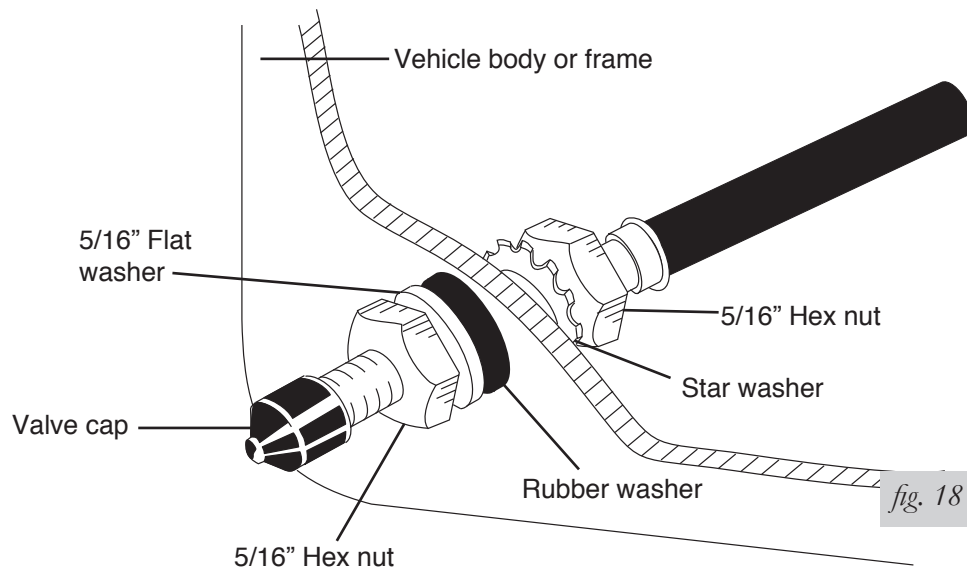

fig. 18
- Place a 5/16" nut and star washer on the air valve. Leave enough of the inflation valve in front of the nut to extend through the hole and have room for the rubber washer, flat washer, and 5/16" nut and cap. There should be enough valve exposed after installation—approximately 1/2"—to easily apply a pressure gauge or an air chuck (fig. 18).
- Push the inflation valve through the hole and use the rubber washer, flat washer, and another 5/16" nut to secure it in place. Tighten the nuts to secure the assembly (fig. 18).